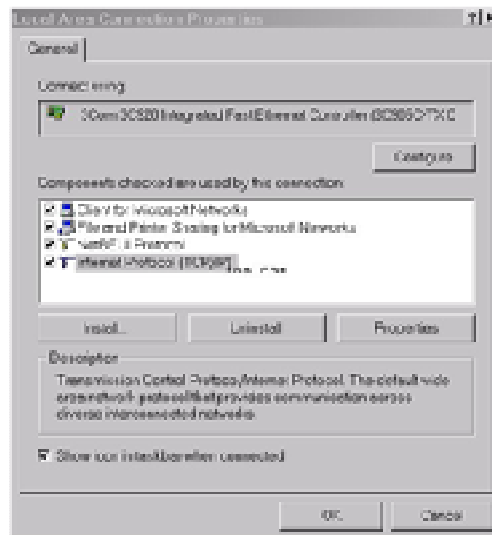

Fig. 3-6 – Selecting the Internet Protocol (TCP/IP)
- Select *Internet Protocol (TCP/IP)* from the list of components (in the general menu) with the left mouse button (see Fig. 3-6).